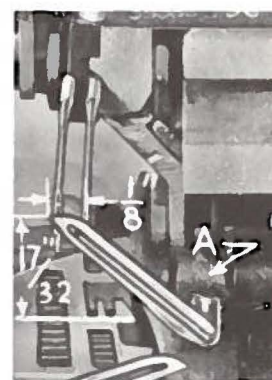

Fig. 10
Next, turn the handwheel until upper looper is at the left end of its travel. Check dimensions of upper looper point with respect to the right needle and throat plate (Fig. 10). If resetting is necessary, do it by moving the upper looper holder (A, Fig. 10). Figure 10 represents the dimensional setting.
If it becomes necessary to move looper thread pull-off (R), be sure to take up all end play in needle drive shaft before tightening. If upper looper is located so that it is higher over throat plate than recommended in (Fig. 10), the purl will tend to form near top edge. If upper looper is too low, the purl will form nearer bottom edge.